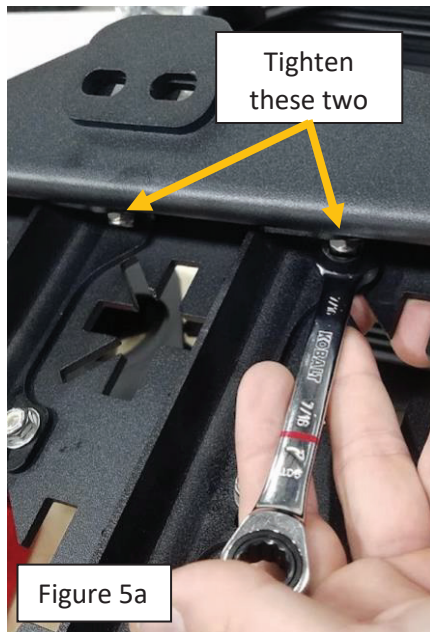
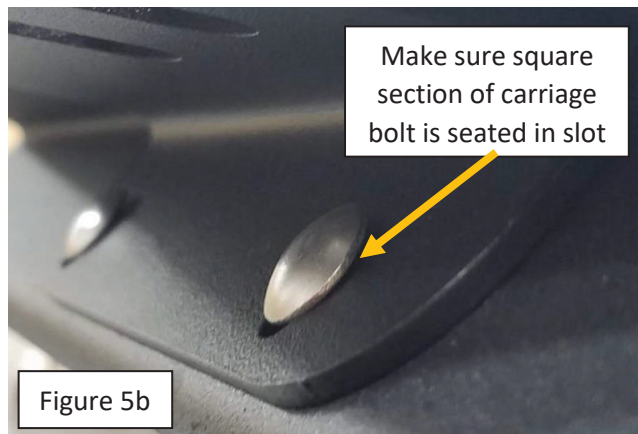

Figure 5a
Figure 5b
- d. Using a 7/16" open end wrench, tighten the (2) nuts in the z-fold area shown in figure 5a. Make sure the square head of the carriage bolt is fully seated in the slot (figure 5b) on the outside of the rack to prevent stripping out the slot. Keep pressure against the bolt head to keep it from backing out. Tighten with wrench by hand until tight and the bolt is fully engaged with the nylon lock on the nut. **NOTE: If the bolt starts to slip while tightening, carefully remove the nut and washer, hammer the bolt into the slot with a dead blow hammer, then reattempt to tighten the nut.**